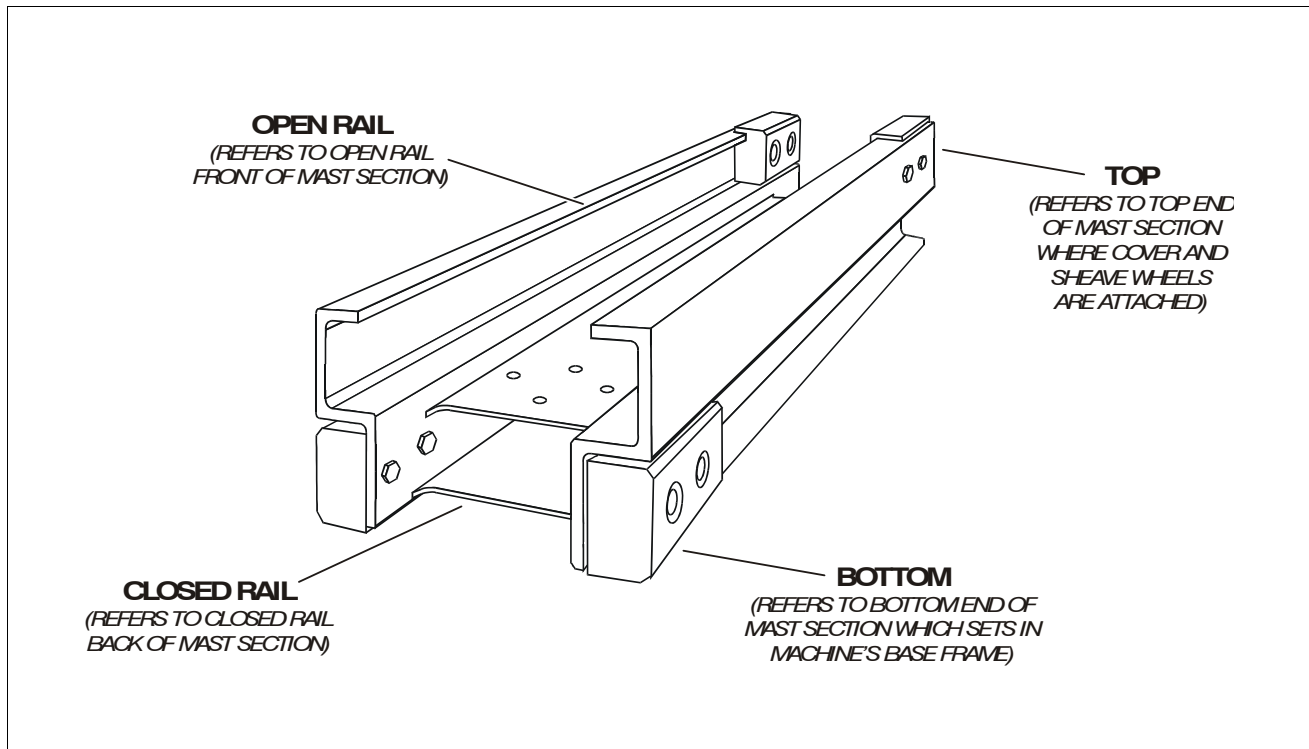

Figure 5-5. Mast Section - Assembly Reference.
1. Place mast section-1, rail (open) side up (See Figure 5-5. on page 5-16) on a clean, flat surface (preferably a table or work bench capable of supporting the weight of the entire mast assembly). Slide mast out over end of work surface far enough to allow access to the chain anchor attach hole near the top of the mast.
2. Locate the two (2) single (wide) chain assemblies and attach to the large equalizer anchor plate (if not already attached). Lay out the chain/anchor plate assembly with the anchor plate end towards top of the mast. (Be certain floor surface is clean and free of any metal chips or debris which may stick to lubricated chains).